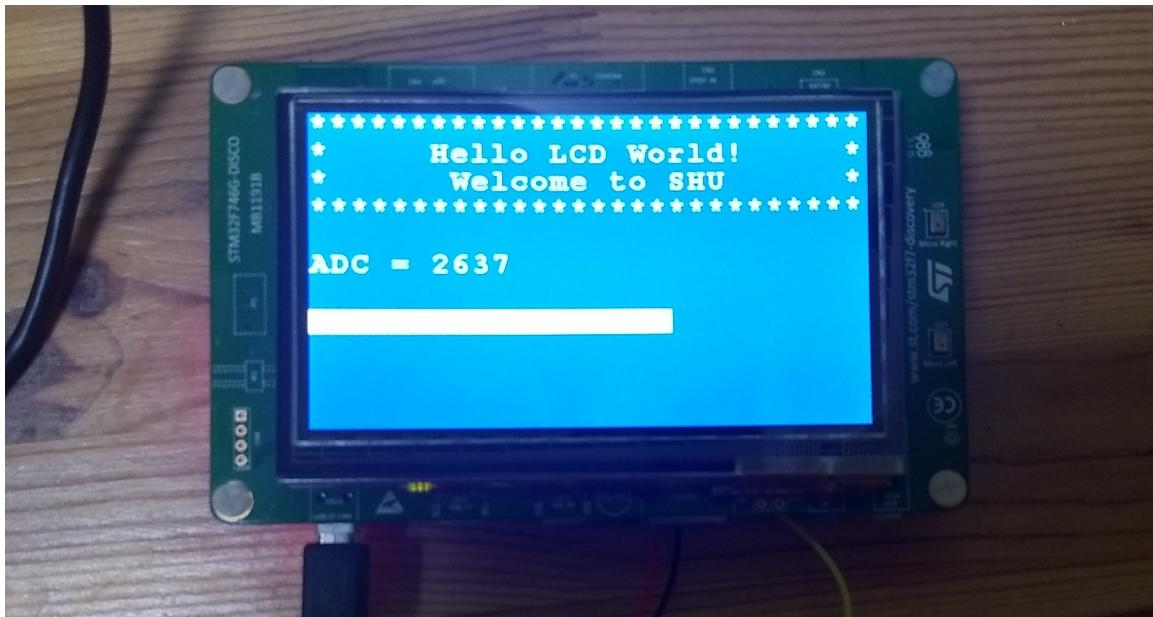

Figure 3 – An example bar graph display on the stm32f7 discovery board LCD
3. Try outputting the potentiometer values to the LCD screen as a bar graph. You should look to scaling the potentiometer values and using them to create a rectangle3. I would highly recommend using pseudocode or other algorithm design methodologies before actually writing the code! Figure 3 shows an example of what this might look like.